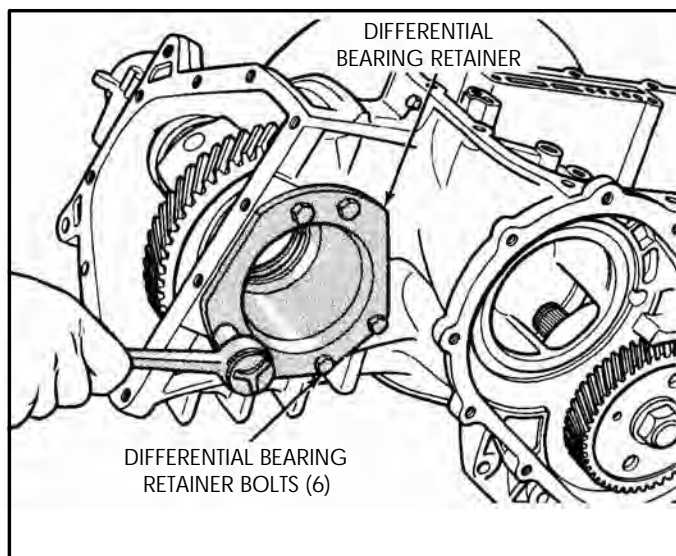

Figure 138
22. Remove the six differential bearing retainer bolts, as shown in Figure 138.